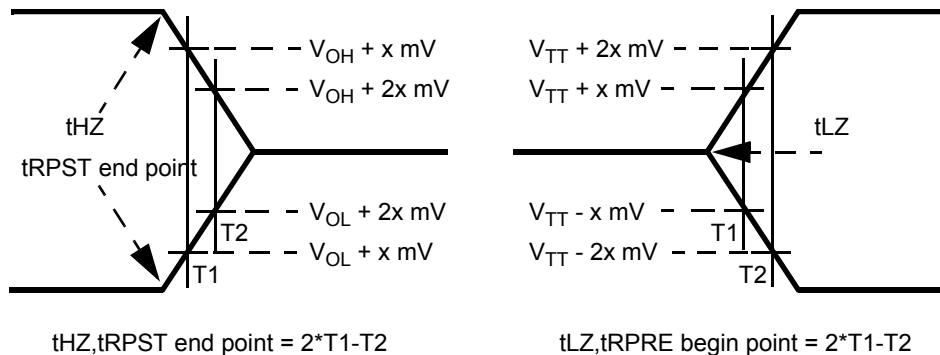

Figure 19. Method for calculating transitions and endpoints
18. tHZ and tLZ transitions occur in the same access time as valid data transitions. These parameters are referenced to a specific voltage level which specifies when the device output is no longer driving (tHZ), or begins driving (tLZ) . Figure 19 shows a method to calculate the point when device is no longer driving (tHZ), or begins driving (tLZ) by measuring the signal at two different voltages. The actual voltage measurement points are not critical as long as the calculation is consistent. tLZ(DQ) refers to tLZ of the DQS and tLZ(DQS) refers to tLZ of the (U/L/R)DQS and (U/L/R)DQS each treated as single-ended signal.
19. tRPST end point and tRPRE begin point are not referenced to a specific voltage level but specify when the device output is no longer driving (tRPST), or begins driving (tRPRE). Figure 19 shows a method to calculate these points when the device is no longer driving (tRPST), or begins driving (tRPRE) by measuring the signal at two different voltages. The actual voltage measurement points are not critical as long as the calculation is consistent.